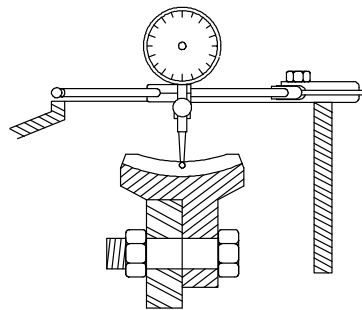

Figure 59 - Dial Indicator to Measure Backlash
32. Install a dial indicator on the brake hub. See Figure 59.